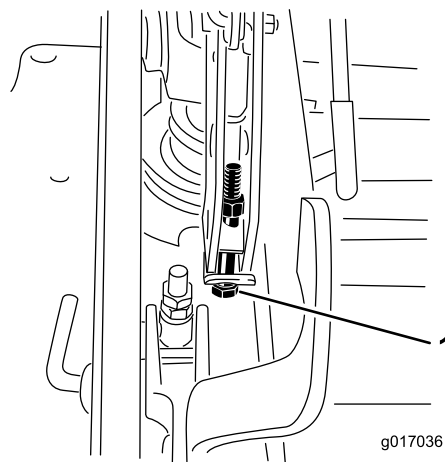

Figure 90
13. If the deck is too low, tighten the single-point adjustment bolt by rotating it clockwise. If the deck is too high, loosen the single point adjustment bolt by rotating it counterclockwise (Figure 90).
14. Tighten the 2 bolts at the bottom of the height-of-cut plate (Figure 90).